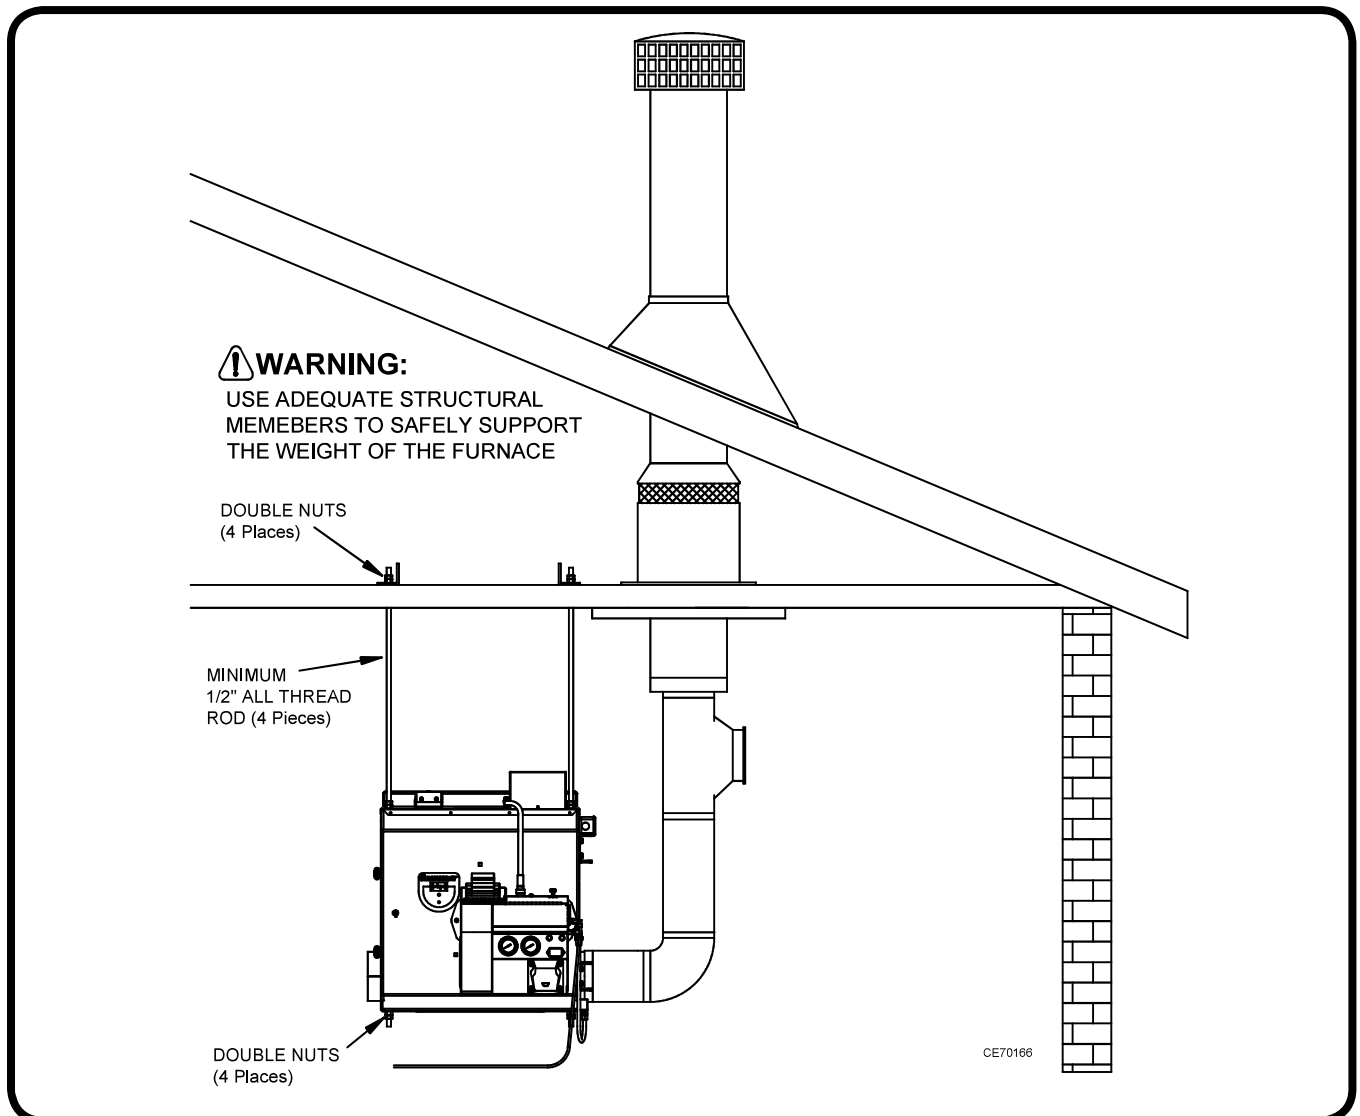

Figure 12: Typical Ceiling Hung Furnace
- (1) Refer to Figure 12 for a typical ceiling hung illustration.
- (2) Remove the kerf cut holes in the corners of the top and bottom of the furnace cabinet.
- (3) Insert all-thread rod (minimum 1/2") through the cabinet and put a washer and two nuts on the bottom.
- (4) Use adequately sized square tubing or angle iron across sufficient structural members to safely carry the weight of the furnace.
- (5) Put a washer and two nuts on the top of each all-thread rod
- (6) Use a level to ensure the furnace is hanging level front-to-back and side-to-side.